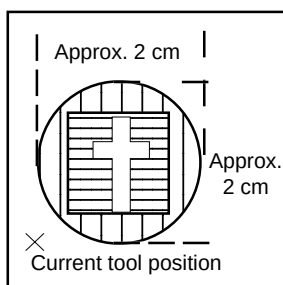

Figure 2-18
5. Then peel off the square area (  ). Speed and force are appropriate if there is only a slight trail left on the base paper by the cutter. figure 2-18